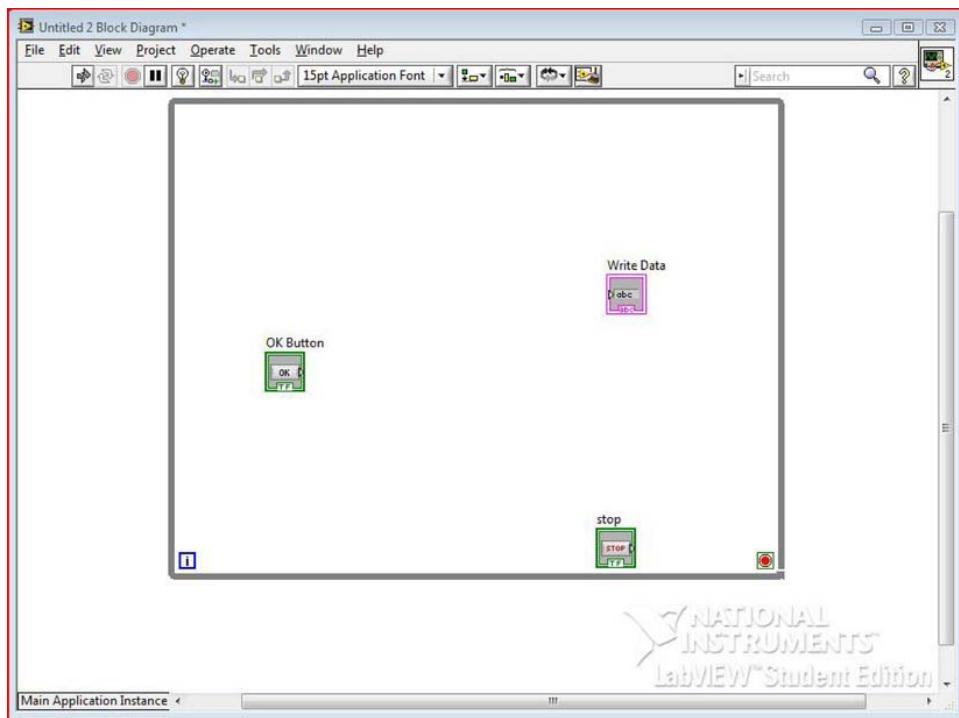

Figure 10-24. Add a While Loop to the Block Diagram.
2. First, go to the Functions Palette ▶ Programming ▶ Structures ▶ While Loop, and drag the While Loop onto the Block Diagram. Figure 10-24 shows this process.